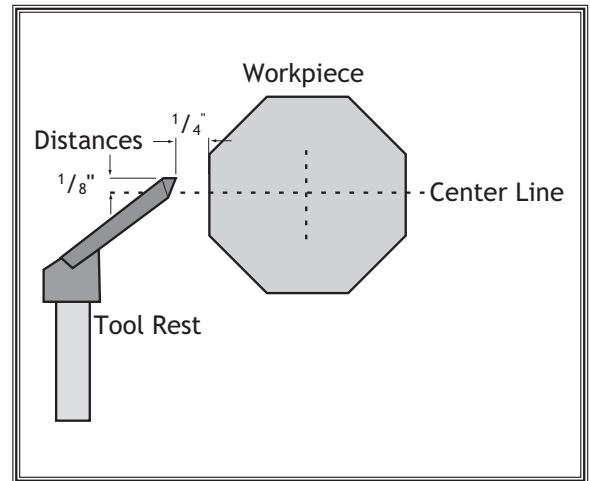

Figure 21. Tool rest set $\frac{1}{8}$ " above the center line and $\frac{1}{4}$ " away from workpiece.
9. Position the tool rest approximately $\frac{1}{4}$ " away from the workpiece and approximately $\frac{1}{8}$ " above the center line, as shown in **Figure 21**.